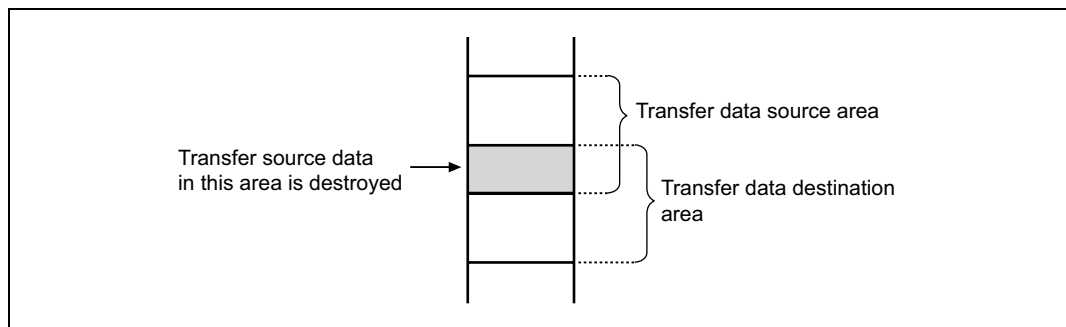

Figure 2 Block Transfer with Overlapping Data
(2) Usage Notes
- (a) The input arguments should be set so that the transfer data source area and transfer data destination area do not overlap. If the two areas overlap, as shown in figure 2, the data in the source area will be destroyed.